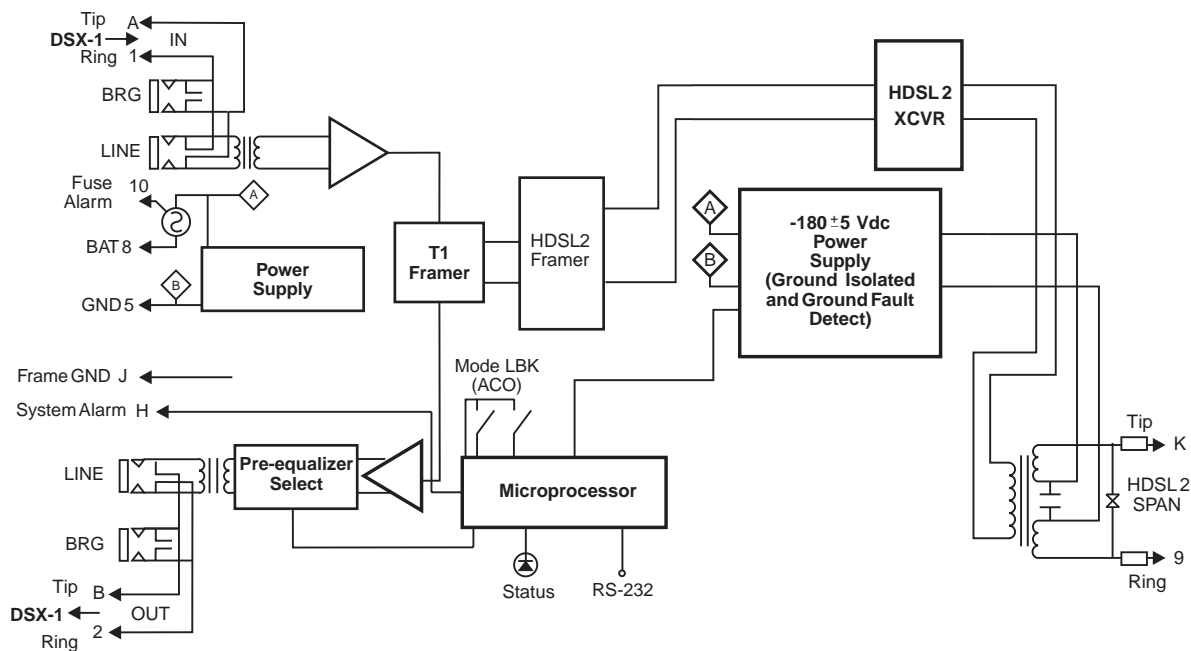

Figure 36. H2TU-C-319 List 2F Block Diagram
Figure 36 shows a block diagram of the H2TU-C-319 List 2F. The H2TU-C-319 List 2F receives a 1.544 Mbps DSX-1 data stream from the DSX-1 digital cross-connect interface. The H2TU-C contains a DS1 frame synchronizer controlled by an 8-bit microprocessor that determines the type of framing on the DS1 stream. The H2TU-C synchronizes to the type of framing detected. The H2TU-C recognizes SuperFrame (SF), including D4 or Extended SuperFrame (ESF).